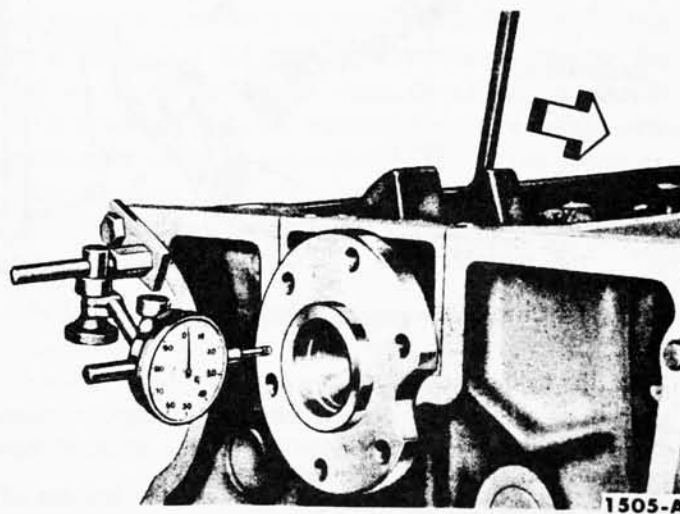

FIG. 34—Crankshaft End Play
7. Force the crankshaft toward the rear of the engine. Install a dial indicator so the contact point rests against the crankshaft flange and the indicator axis is parallel to the crankshaft axis (Fig. 34). Set the dial on zero, then push the crankshaft forward and note the reading on the dial.